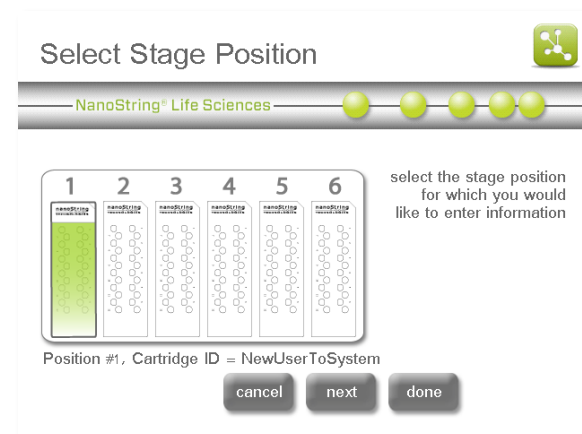

Figure 88: The 'Select Stage Position' screen.
- The 'Select Stage Position' screen will appear (**Figure 88**).